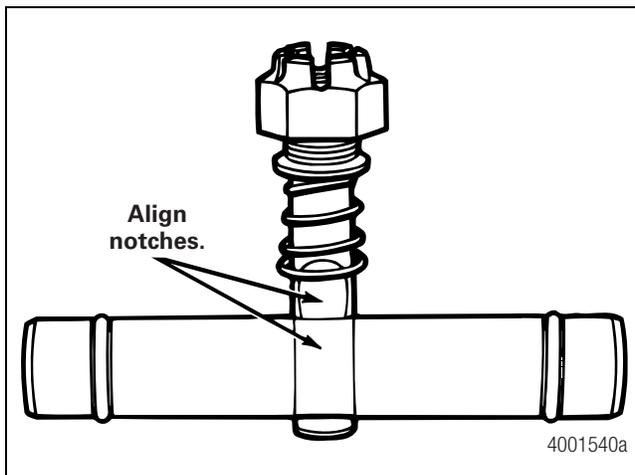

Figure 3.5
- The notch in the slide pin retainer must be toward the bore for the slide pin. The notches in the retainer and the slide pin must engage when you install the slide pin. Figure 3.5.